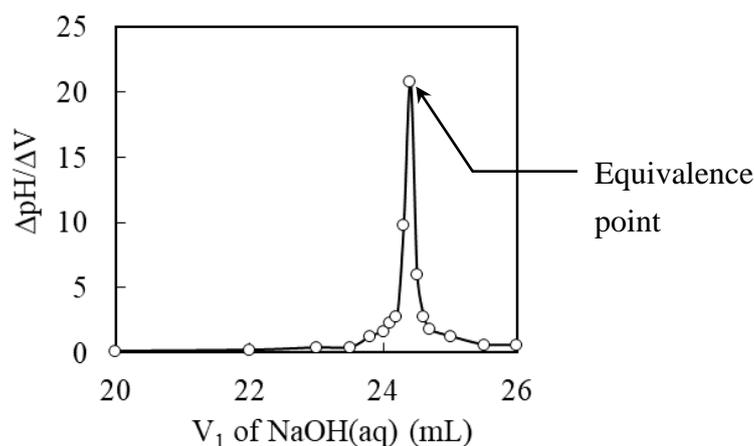

Figure 13-3 First derivative of titration curve
2. The first derivative of titration curve: The changes in pH value per unit volume of titrant added ($\Delta pH/\Delta V$) vs volume of titrant added are plotted (Fig. 13-3). The point having a maximum $\Delta pH/\Delta V$ value is the equivalence point.